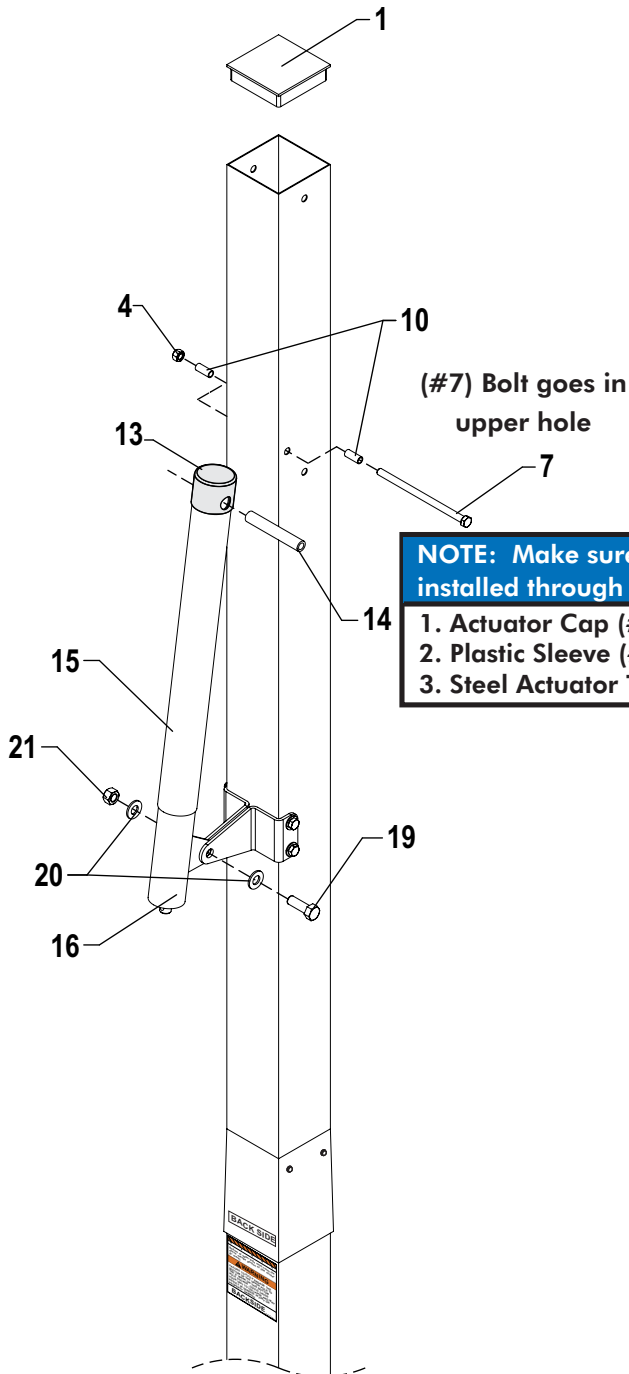

Figure 8
10. If not already pre-assembled, slide Plastic Actuator Sleeve (#15) over Steel Actuator (#16) and place Actuator Cap (#13) on top. Align holes in all 3 parts and slide Pivot Tube (#14) through holes in Actuator Cap (#13), Plastic Actuator Sleeve (#15) and Steel Actuator (#16) until equal amounts stick out through both sides of actuator. See **Figure 8**.
11. Slide tab on Actuator (#16) between Post Ears (#30) and Secure using one bolt (#19), two washers (#20) and one lock nut (#21). Tighten Lock Nut (#21) snug but **do not** over tighten. See **Figure 8**. At this time also **tighten nuts (#4) from Step 9**.
13. Secure two stop spacers (#10) to pole, as shown in **Figure 8**, using one hex bolt (#7) and one lock nut (#4). Tighten Lock Nut (#4) but **do not over tighten**.